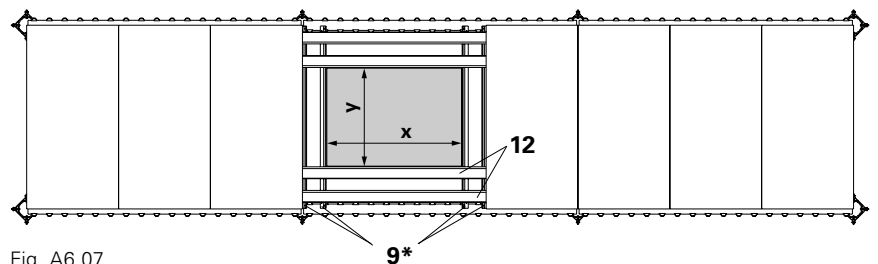

Fig. A6.07
Insert Edge Beam SRT-2 150 (9*) in a suspended position. Lay Filler Timber SPH 150 (12) in a flat position. Permissible widths of influence for flat Filler Timber SPH, see Table A6.02 on next page. (Fig. A6.07 + A6.08)